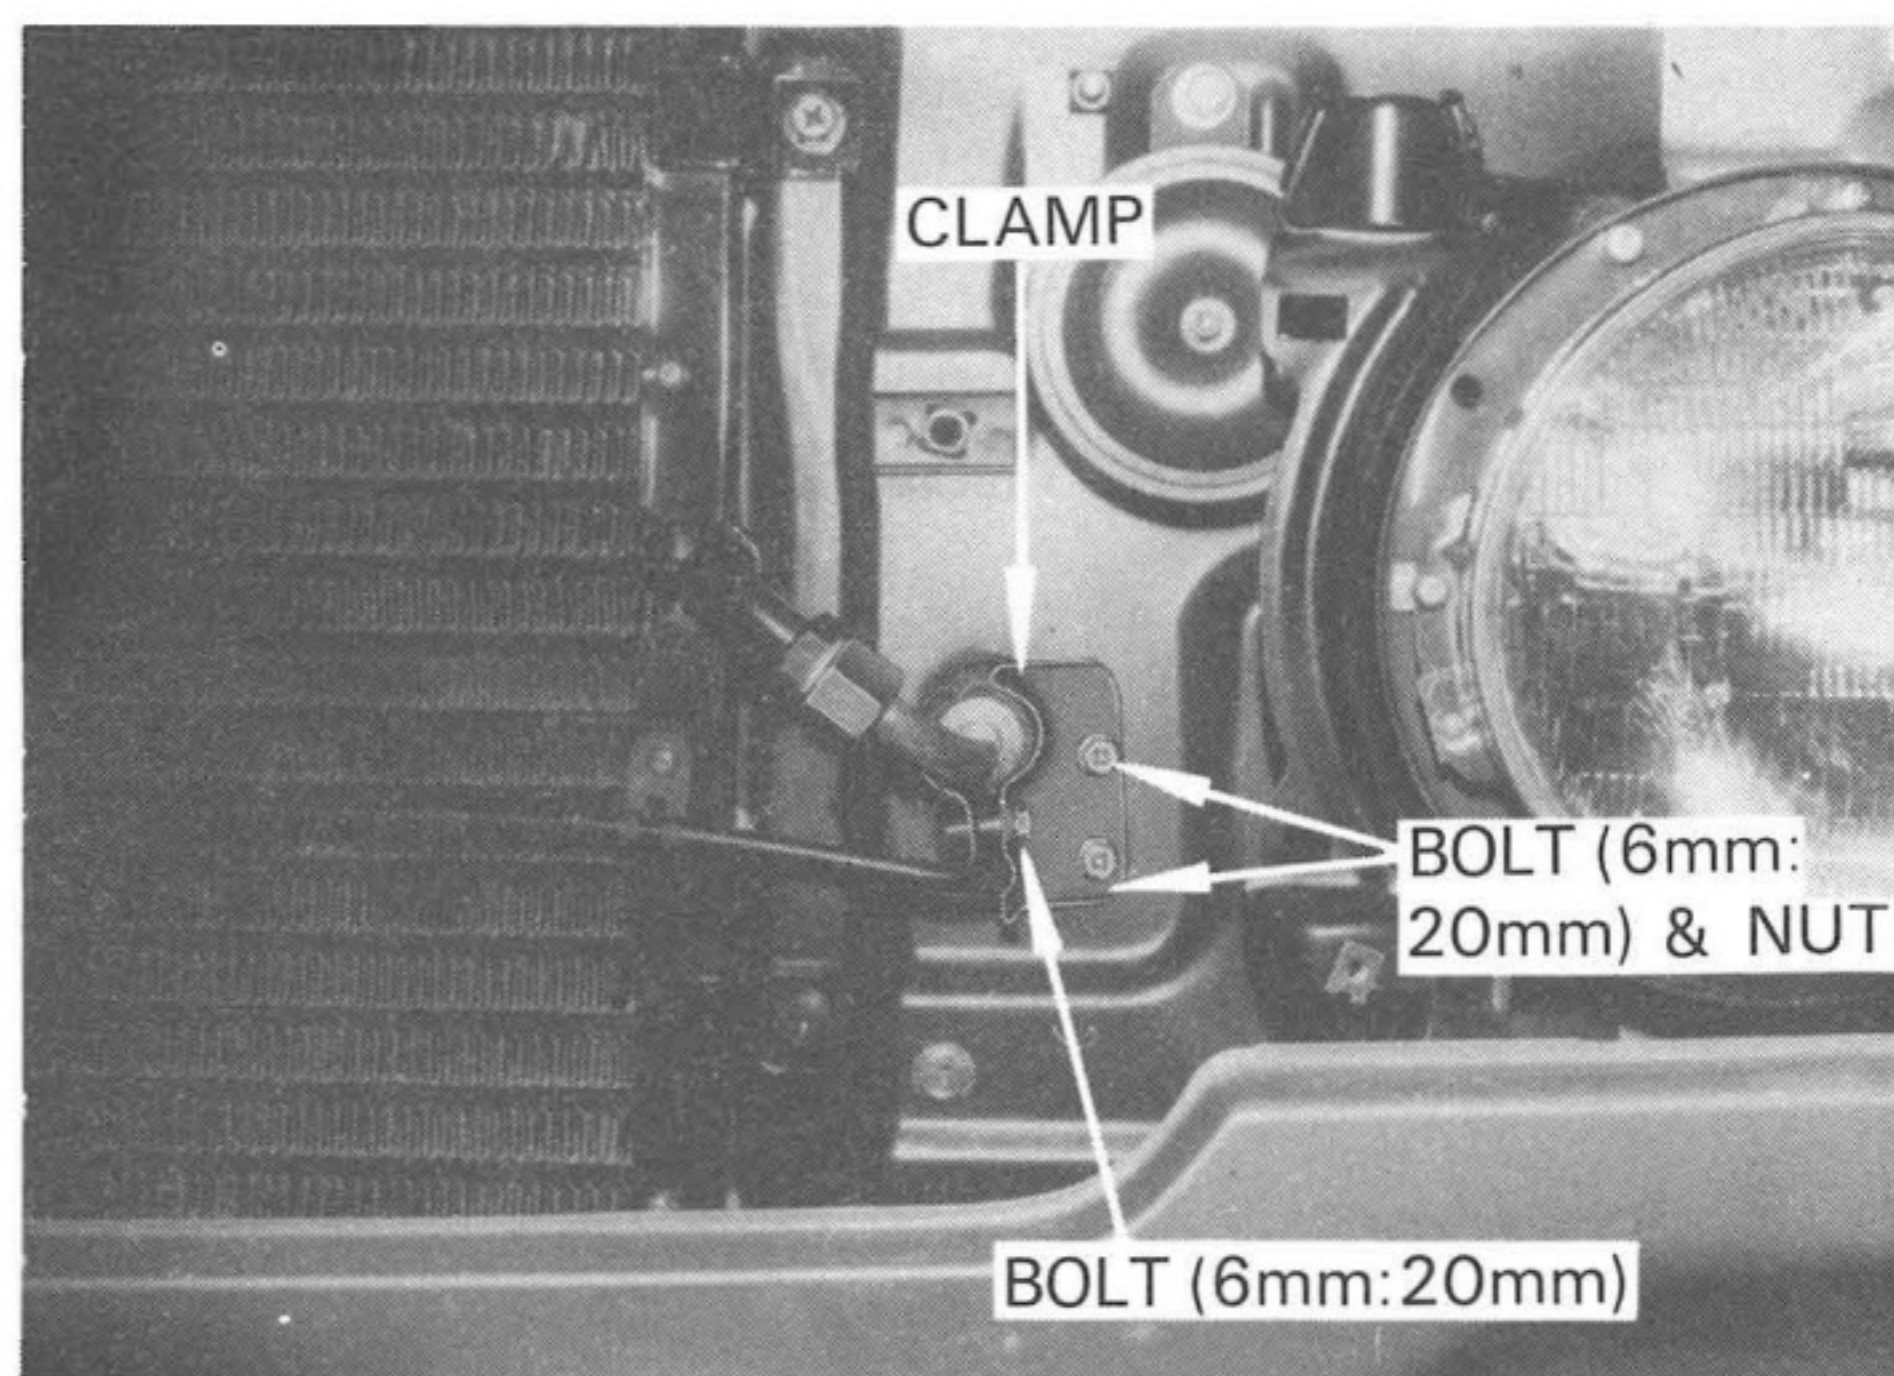

Fig. 3-3
- B) Fasten the discharge flexible hose and the liquid line tube with a clamp using three bolts and nuts. See Fig. 3-3.